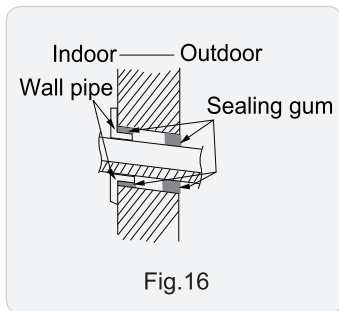

Fig. 16
- (1) Put the bound pipes in the wall pipe and then make them pass through the wall hole.
- (2) Hang the indoor unit on the wall-mounting frame.
- (3) Stuff the gap between pipes and wall hole with sealing gum.
- (4) Fix the wall pipe. (As show in Fig.16)